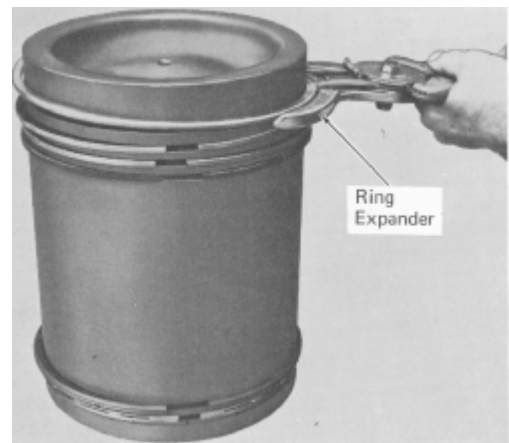

Fig. 3-8 - Removing Piston Rings
1. Remove the piston rings using ring expander as shown in Fig. 3-8, and discard the old rings.